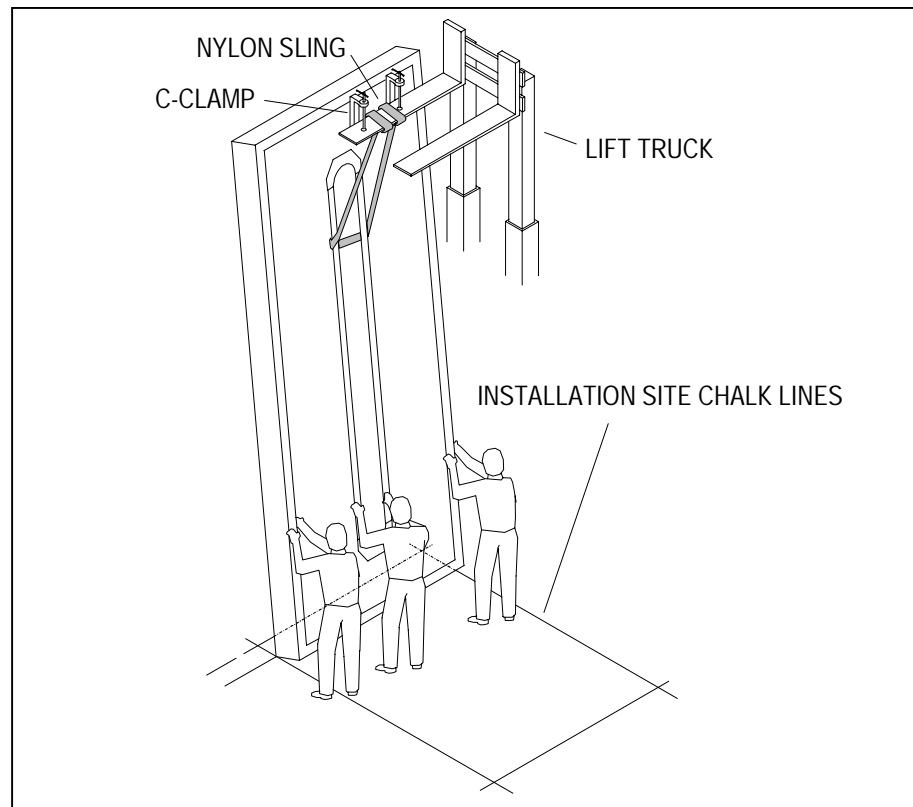

Figure 12. POSITIONING THE SIDE
10. Move the lift truck forward to position the side within the chalk lines (see Figure 12).